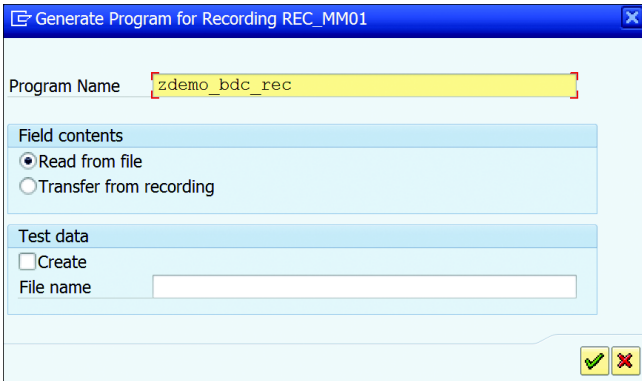

Figure 19.11 Generate Program
6. In the GENERATE PROGRAM window, provide the PROGRAM NAME and select the options shown in Figure 19.11.